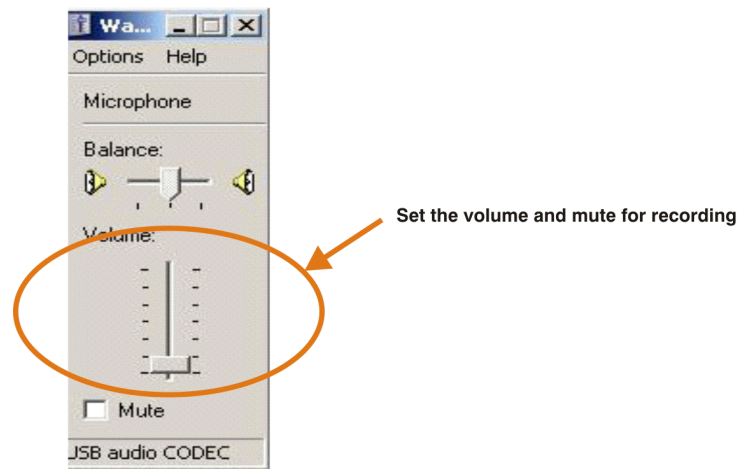

Figure 3-11. Microphone Volume Windows for Record Volume Setting (Windows XP)
- Set the microphone volume and the recording mute level from -12 dB to $+30$ dB, as shown in Figure 3-11. The initial volume setting upon installation is approximately $+8$ dB.